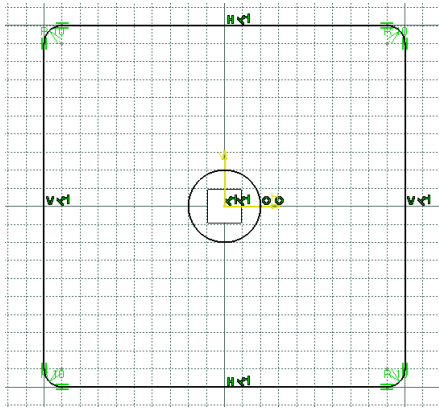

Figure 3-46 The sketch after drawing the circle
- Draw the inner loop of the sketch using the **Circle**, **Elongated Hole**, and **Cylindrical Elongated Hole** tools, refer to Figures 3-46 through 3-48.
2. Move the cursor horizontally toward the right and click to specify a point on the circle when the value of the radius is displayed as **20** in the **R** edit box. The sketch, after drawing the circle, is shown in Figure 3-46.